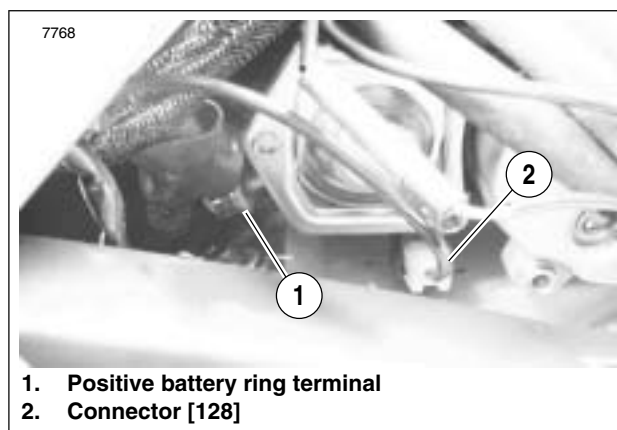

Figure 5-11. Starter Wires
8. See Figure 5-11. Remove positive battery cable from solenoid.